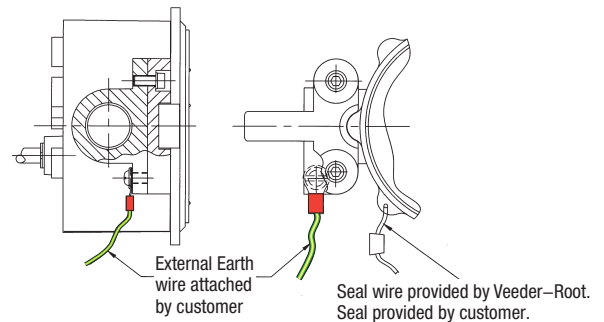

Figure 5. External Ground/Earth
1. Customer applied external ground wire is shown in Figure 5.